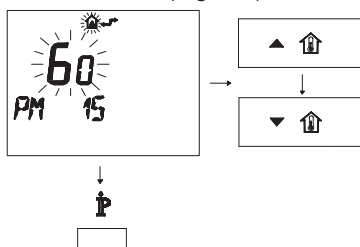

Fig. 8.4
- Modify the programmed SET by pressing buttons ▲ ⏮ or ▼ ⏮ until a **setting of 60** is displayed, wait for the number programmed to flash (Fig. 8.4).